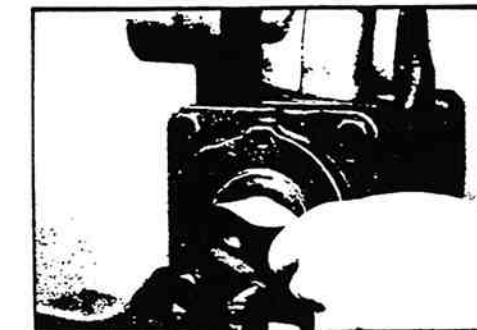

Figure 11-26. Cleaning Shaft.
22. Clean the input shaft with a fine grade emery paper (figure 11-26).